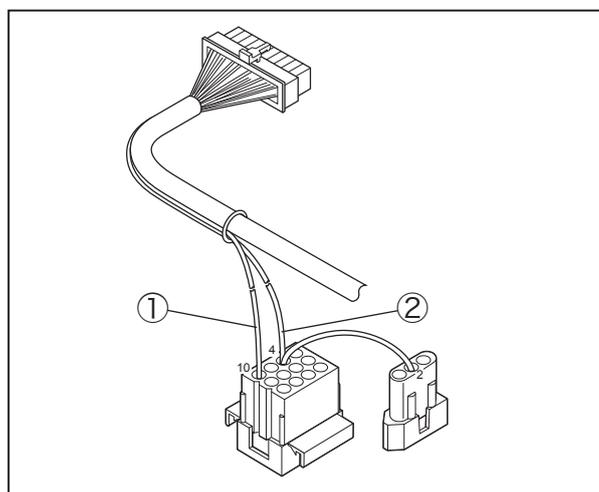

Fig. 2-12
Connect the black wire ① and the white wire ② of the intermediate cable to the pin with the number as below. (Fig. 2-12)